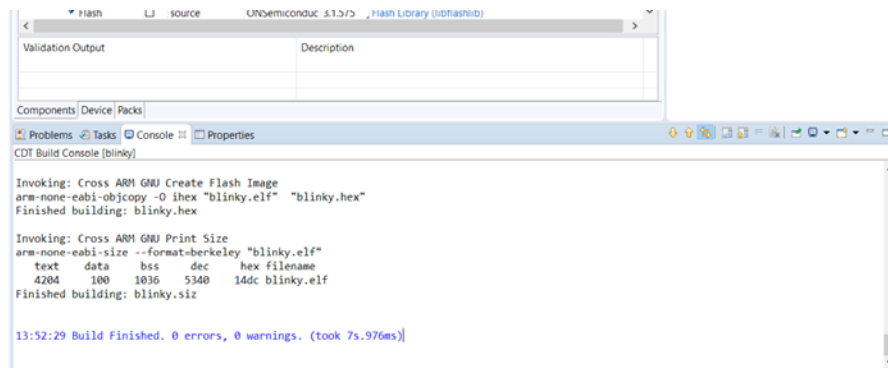

Figure 8. Example of Build Output
2. When the build is running, the output of the build is shown in the ON Semiconductor IDE C/C++ Development Tooling (CDT) Build Console, as illustrated in Figure 8.